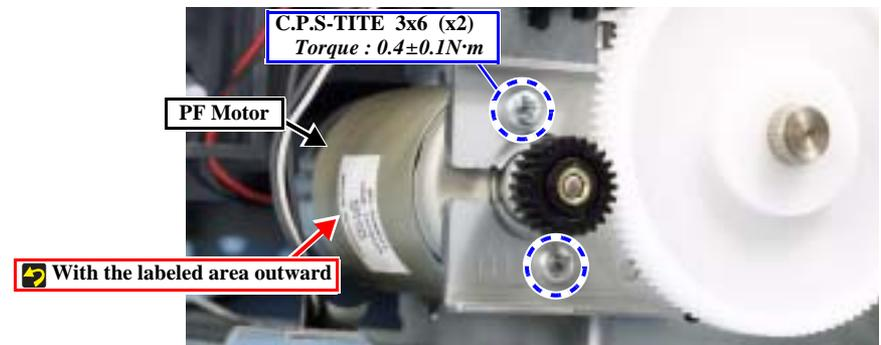

Figure 4-56. Removing the PF Motor
6. Remove the screws (x2) securing the PF Motor, and remove the PF Motor in the lateral direction. (Fig. 4-56)
REASSEMBLY  ■ Install the PF Motor with its labeled area facing outward. (Fig. 4-56)